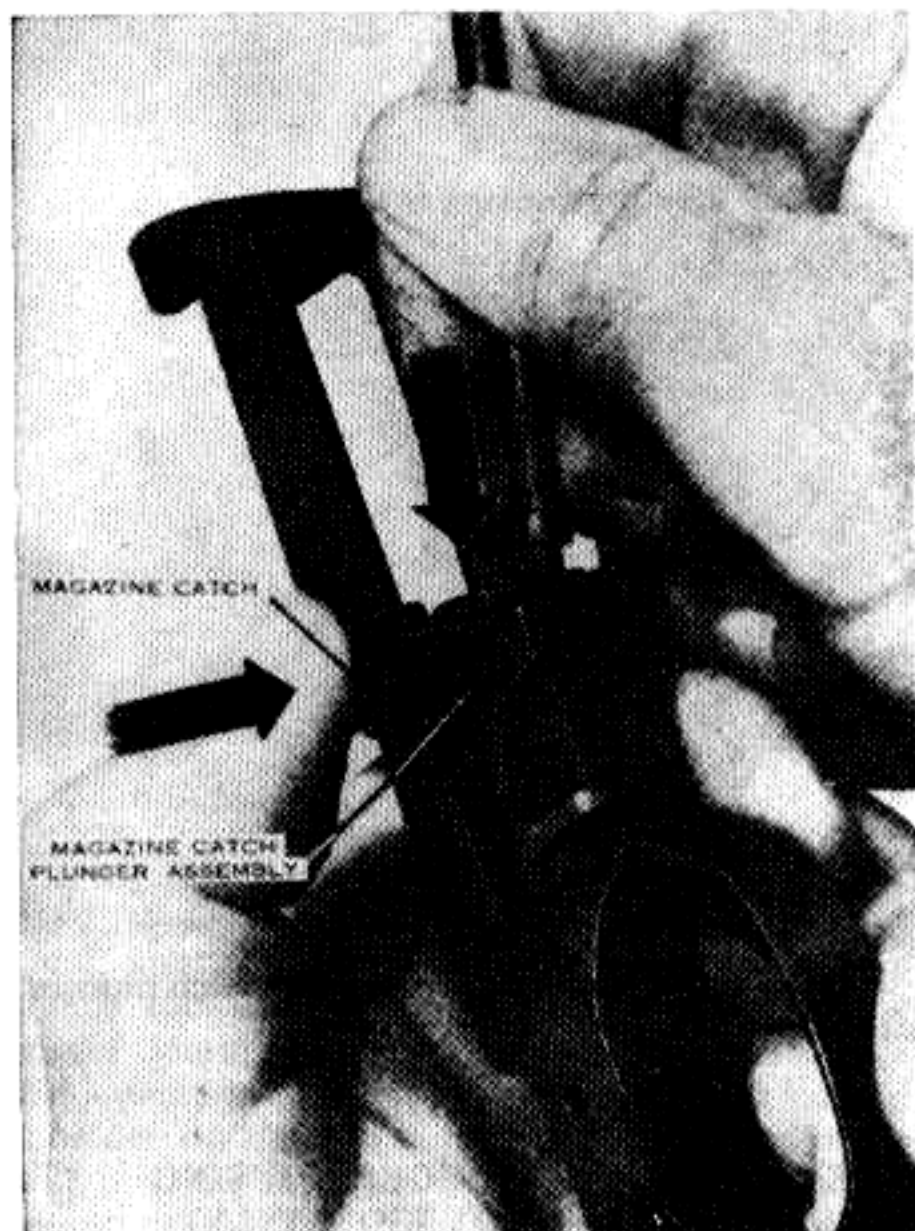

Figure 26. Replacing the magazine catch.
*c.* If you separated the magazine catch spring and plunger, assemble these parts now, and then place the assembly in its well in the trigger guard housing. The loose end of the magazine catch spring is inserted first, with the plunger facing outward. Replace the magazine catch into its guide groove in the forward face of the trigger housing with the fingerpiece facing to the rear. Move the magazine catch to the left against its plunger. Grasp the trigger housing as shown in Figure 26. Pull the magazine catch retainer plunger back into the aperture in the trigger housing and at the same time, push the magazine catch completely to the left. The magazine catch retainer plunger will click into position in its recess in the magazine catch, holding the magazine catch in its guide groove. Operate the safety and magazine catch a few times to test the assembly.